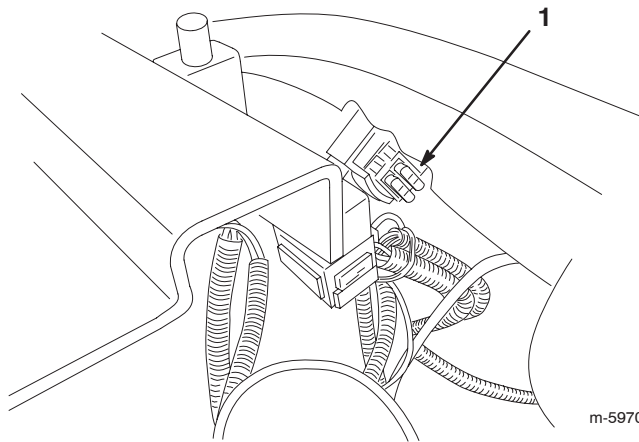

Figure 26
1. Pull out the fuse (Fig. 26) to remove it from the socket.